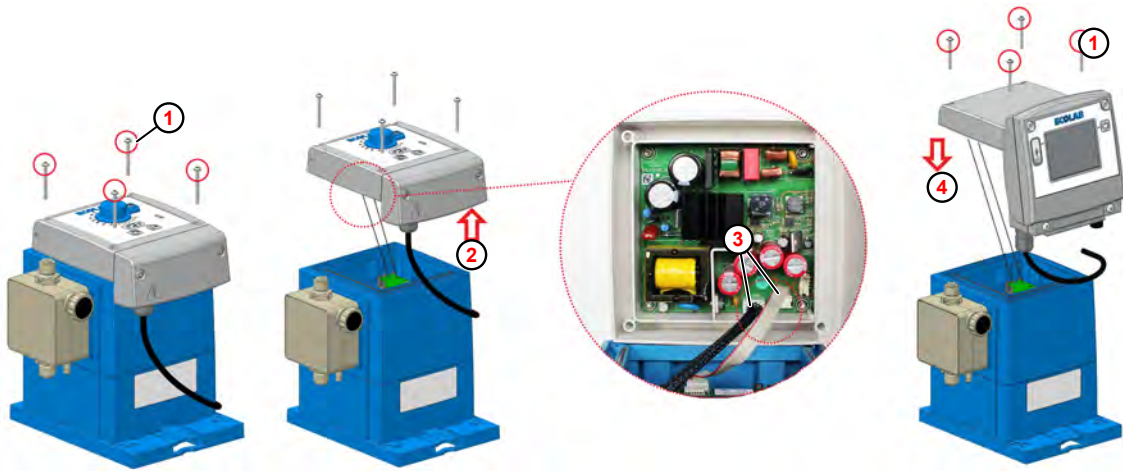

Fig. 37: Upgrade to EcoAdd
- ① Fixing screw
② Remove the control unit
③ Plug
④ Place the control unit
1. Loosen the screws (Fig. 37 , ①) on the **EcoPro** control unit using a Torx spanner (TX25).